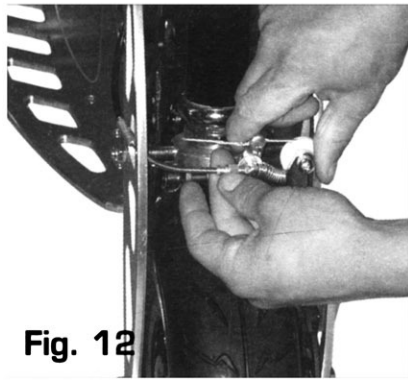

Fig. 12
1. With one hand, depress the brake calliper using your thumb and forefinger. (Fig. 12).